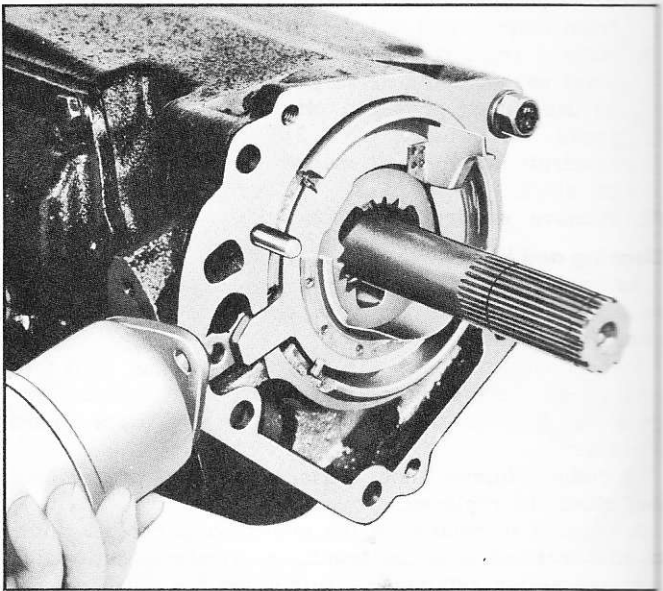

Fig. 10B—Removing Solenoid
5. Remove sun gear solenoid, oil seal and cable bracket (fig. 10B).